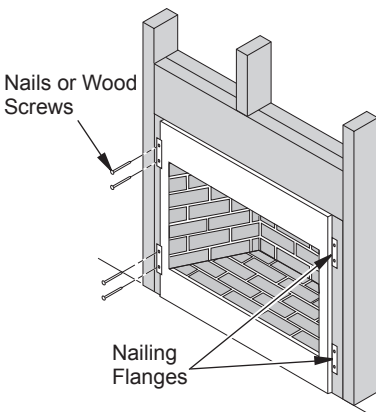

Figure 9 - Attaching Firebox to Wall Studs (Model May Vary From Illustration)
- Attach firebox to wall studs using nails or wood screws through holes in nailing flange (see Figure 9).